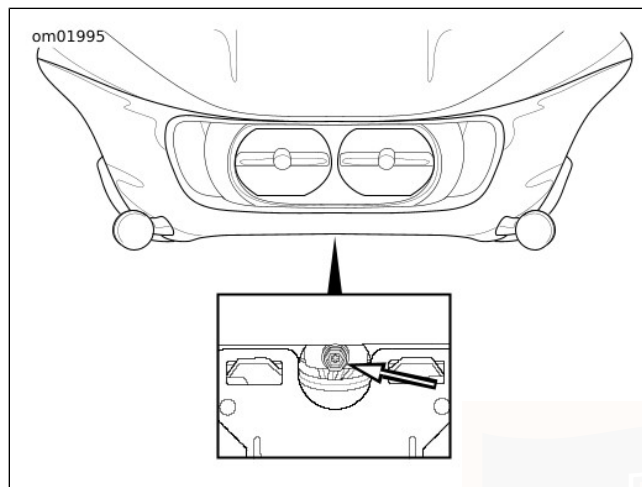

Figure 95. Headlamp Adjuster
2. See Figure 95. Locate the headlamp adjuster.